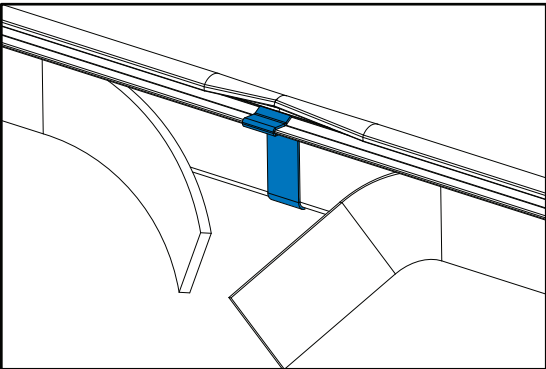

FIGURE 2
- 3. Figure 2 shows the addition of the split rail seal - Pull back small parts of the main rail seal on the backside of the rail and use this tape to seal the gap as shown. Re-adhere the main rail seal before installing it on the vehicle.